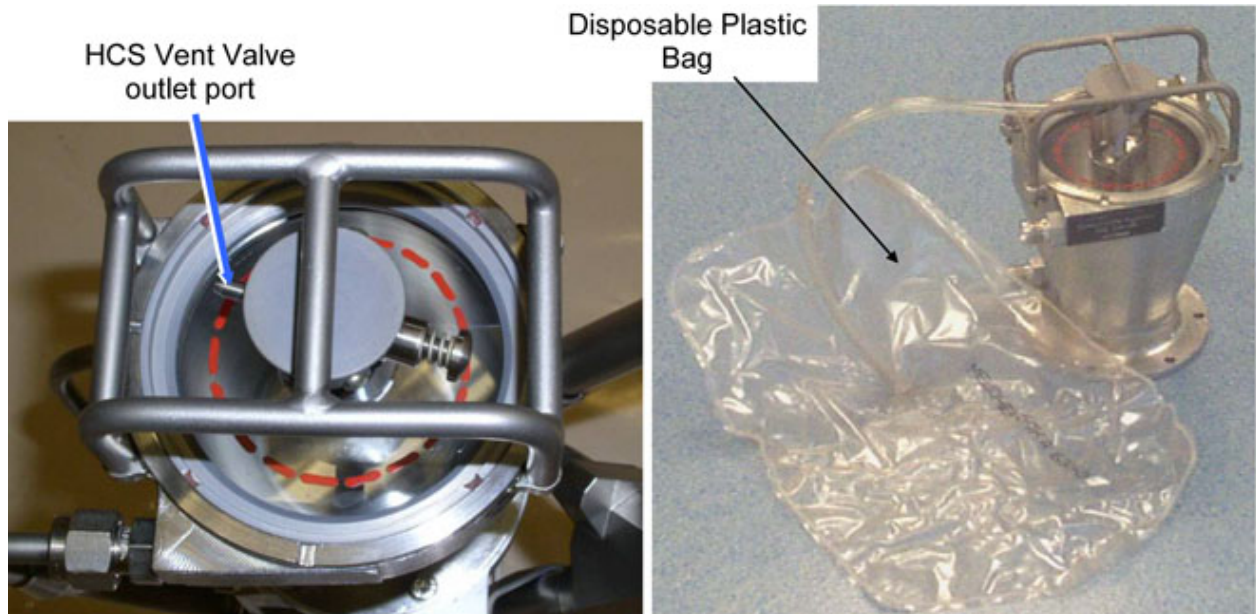

Figure 5. HCS Vent Valve and Disposable Bag Installed (piping not shown)
- 3.1 Connect a Disposable Plastic Bag to the outlet port of the Hydrocyclone Separator (HCS) Vent Valve. Refer to Figure 5.